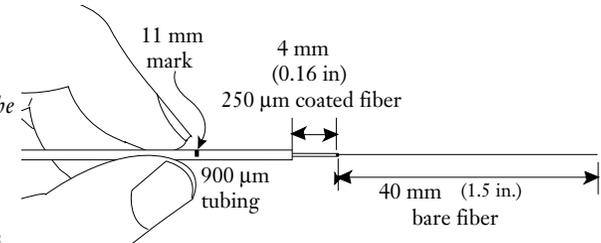

Figure 3-16
- Mark the fan-out tube 11 mm (0.43 in) back from the strip point with a permanent marker (Figure 3-16).